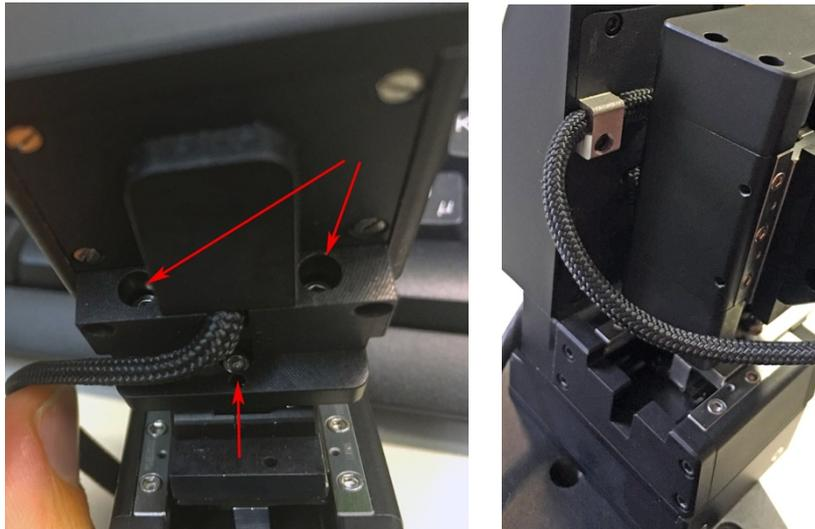
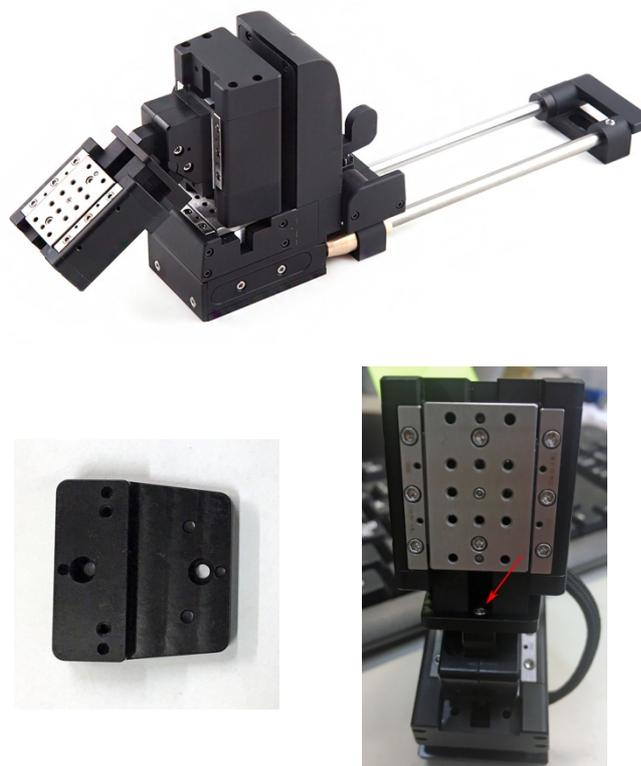

Figure 6.1. Re-configuring handedness
Figure 6.2. X-axis up configuration
3. It is also possible to configure manipulator to have x-axis attachment surface facing up (Fig. 6.2.), which requires using one additional attachment plate between the x-axis and tilt angle adjustment module.
To change from right to left-handed, or vice versa, loosen pair of screws pointed with arrows in Fig. 6.1, left. Drive y-axis to the other extreme and unscrew the cable clip to release x-axis cable from the manipulator body. Flip the x-axis around and loop the x-axis cable to other side of the z-axis. Attach cable and x-axis in reverse order using the same screws.
To attach x-axis its attachment side up, loosen the pair of x-axis attachment screws as instructed above. Attach the adapter plate to back end of the x-axis so that thicker part facing backside of the axis (Fig. 6.2. bottom, left). Then attach adapter plate with the x-axis to the tilt adjustment piece using the two screws (Fig 6.1. single arrow behind x-axis cable and arrow in Fig. 6.2. bottom right).